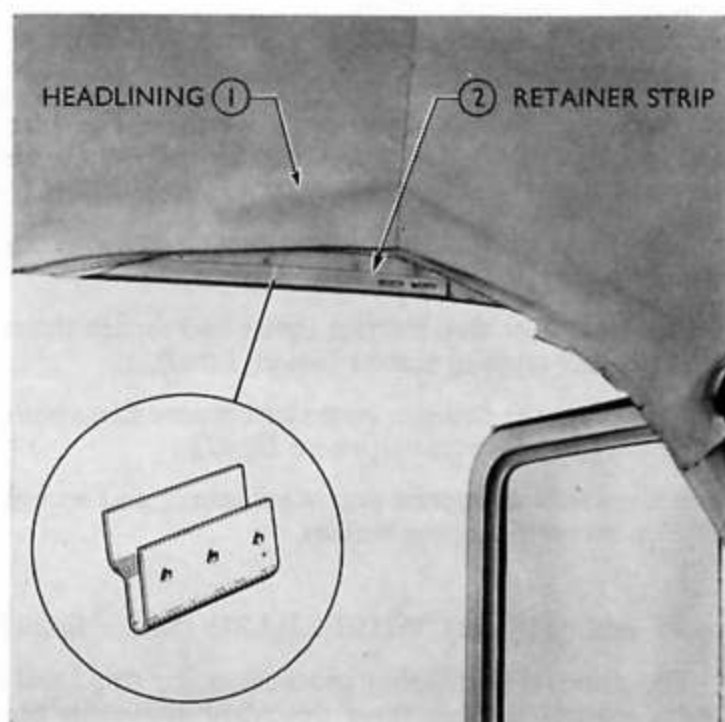

Fig. 20
6. Insert between the body and the headlining toothed retainer strips, a thin metal blade with all sharp edges removed and gently prise the retainer strips away from the body. (A blunt paint scraper can be used for this operation.) The tool can then be pushed between the retainer strip and body, enabling the headlining to be carefully lifted from the retaining teeth on the back face of the retainer strips (see Fig. 20).
To avoid damage to the headlining material during this delicate operation, commence to lift the material from the retainer teeth in a location where a sleeve is stitched to the back face. This location can be determined by the stitch join between the panels of the headlining (see Fig. 20) in this manner, detach the headlining along three edges.
5. Trim off the surplus material with sharp scissors leaving approximately 5 cm. (2 in.) of material hanging below the retainer strips. Using the tool previously described (a blunt paint scraper) gently push the overhanging material up behind the toothed retainer strips, removing the clips as the operation proceeds. (To avoid possibility of damage to the headlining material this should be commenced at the location where a cotton sleeve is stitched to the back face of the headlining material.) (See Fig. 20). If additional stress is required at any point to remove transverse creases this again should be done by pushing on the headlining material in a position where a cotton sleeve is stitched to the back face of the material.